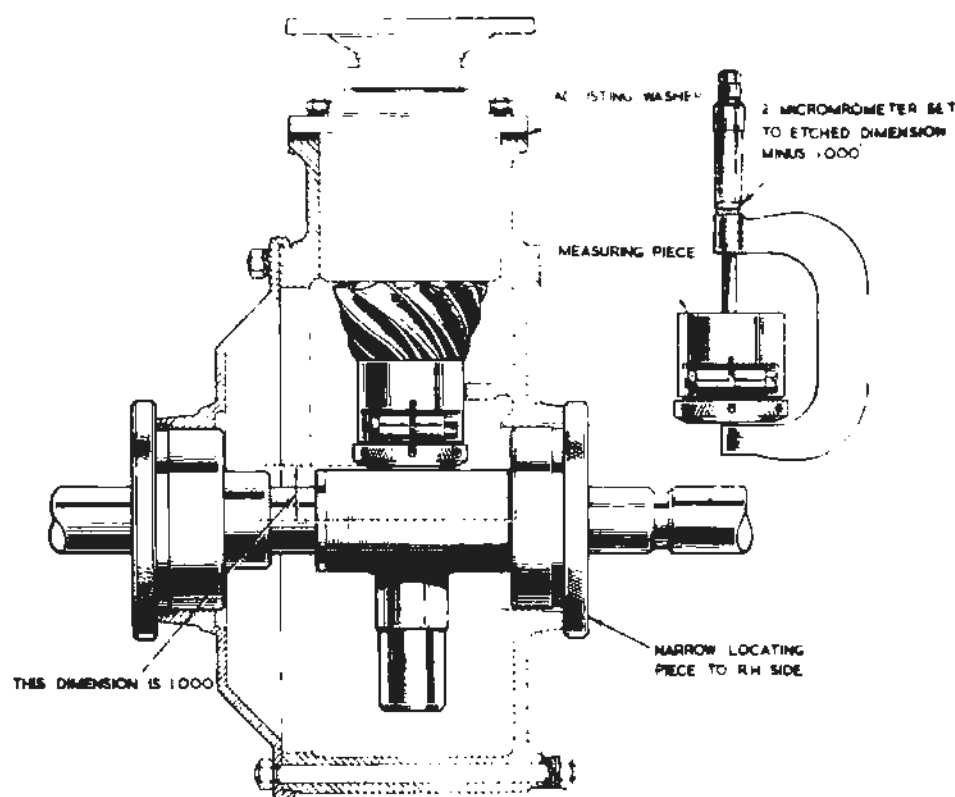

Fig. J.16.—Pinion Setting Tool in position
- Set the measuring piece shown in Fig. J.16 to the resultant dimension and lock up.
- Fit the pinion setting tool into the casing as shown in Fig. J.16 using the original adjusting washer